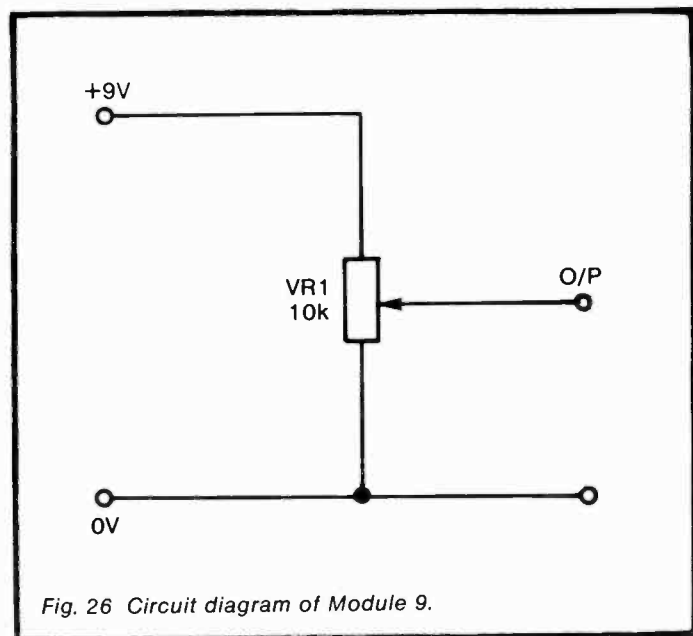

Fig. 26 Circuit diagram of Module 9.
*Circuit diagram:* see Figure 26.